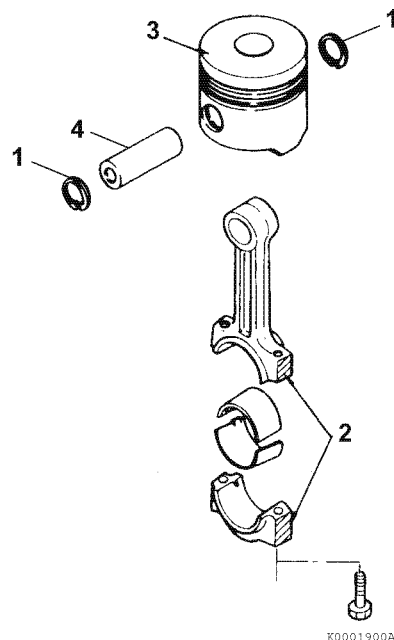

Figure 6-47
14. Remove the wrist pin circlips (1, Figure 6-47) from the piston.
15. Support the piston (3, Figure 6-47) and drive the wrist pin (4, Figure 6-47) from the piston. Use a soft-faced hammer and a suitable driving tool that has a smaller diameter than the inside diameter of the wrist pin bore. Remove the connecting rod (2, Figure 6-47) from the piston.